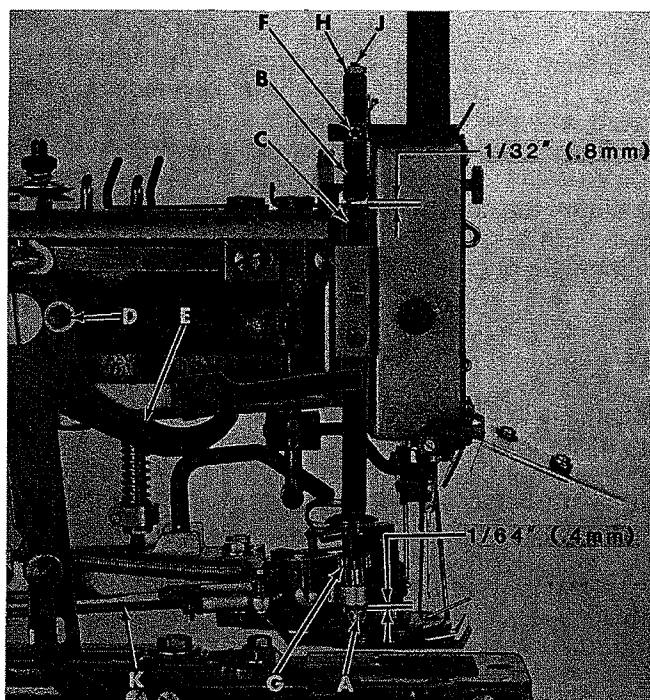

Fig. 46
Machine is in STOP POSITION. The top of orienting pin base (A, Fig. 46) must be 1/64 inch (0.4 mm) from bottom of bushing. The lifter lever stop (B) is adjusted so that there is 1/32 inch (0.8 mm) clearance between the bottom of stop (B) and bracket (C).
Loosen the two hex head screws (D, Fig. 46) and move the lifter lever (E) up or down as needed. Tighten screws (D).
Remove button from the holder at the orienting pin (A). Engage the machine into RUN POSITION. The driven gear (G, Fig. 46) of the orienting pin should now contact the top of the bushing with just enough pressure to push the pins into the button holes and not bounce out during the stitching cycle.
Machine is in STOP POSITION. Remove the needle and turn power "ON". Manually move the gear rack connecting rod (K, Fig. 46) forward to the end of its stroke. Then gradually move the connecting rod toward the rear while pressing and releasing the operating treadle several times. **KEEP FINGERS AWAY FROM UNDERNEATH THE CLAMP.** Observe the button moving into sewing position. The machine should not begin its stitching cycle until the button reaches the proper sewing position.